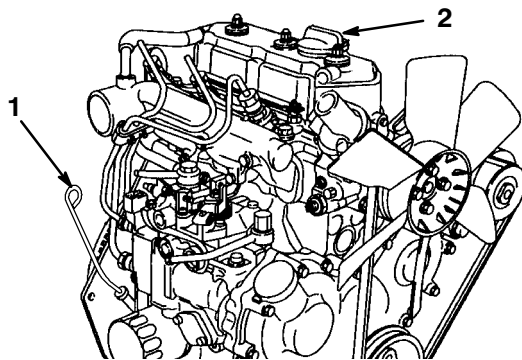

Figure 15
2. Remove the dipstick and wipe it with a clean rag (Fig. 15). Push the dipstick into the tube and make sure it is seated fully. Remove the dipstick from the tube and check the level of oil. If the oil level is low, remove the filler cap from the valve cover and add enough oil to raise the level to the FULL mark on the dipstick. Add the oil slowly and check the level often during this process. **Do not overfill.**